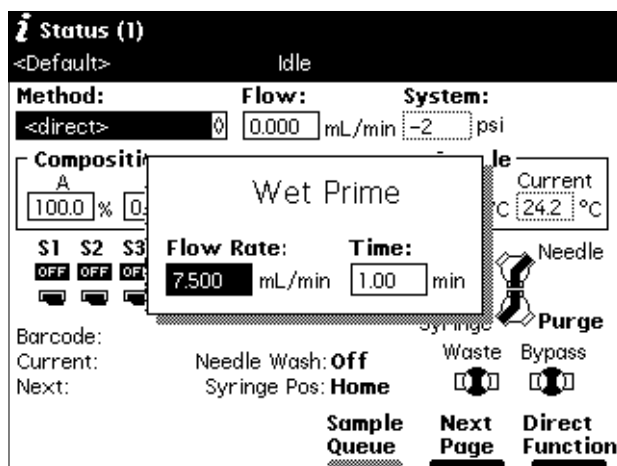

Figure 4-9 Wet Prime Dialog Box
4. Select **Wet Prime**, then press **Enter**. The Wet Prime dialog box appears (Figure 4-9).
5. Select **Wet Prime**, then press **Enter**. The Wet Prime dialog box appears (Figure 4-9).